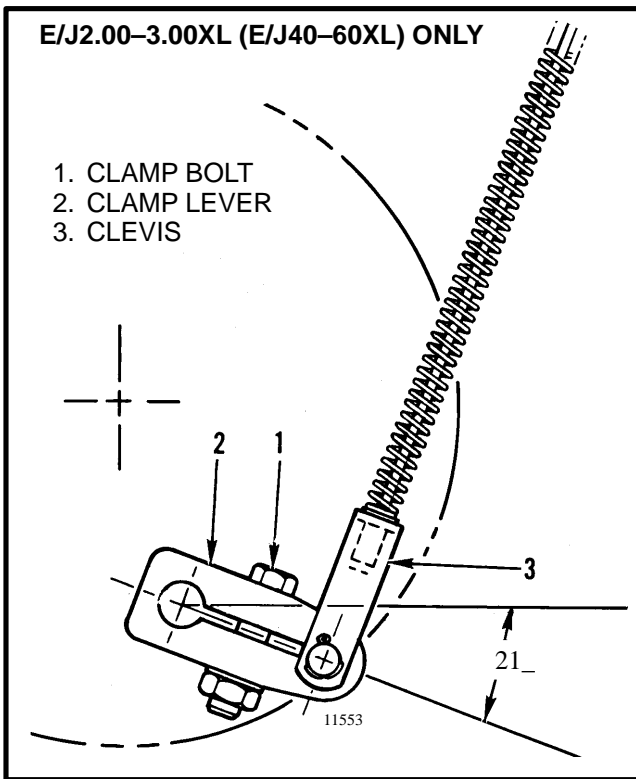

FIGURE 15. ADJUST THE PARKING BRAKE LEVERS
14. Install the parking brake lever to the crank. The position of the lever must be between horizontal and 21° below horizontal towards the rear of the lift truck. Connect the cable to the lever. See FIGURE 15.
released. See FIGURE 15. Small adjustments can be made by turning the knob on the end of the hand lever.